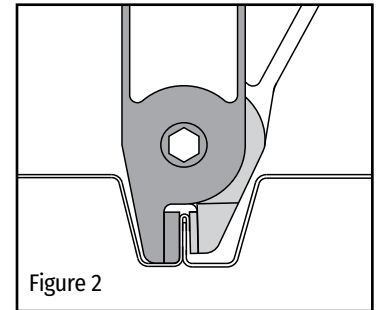

Figure 2
7. Actuate tool by pulling trigger. Depress trigger until the jaw fully closes to ensure a full punch. (see Figure 2)